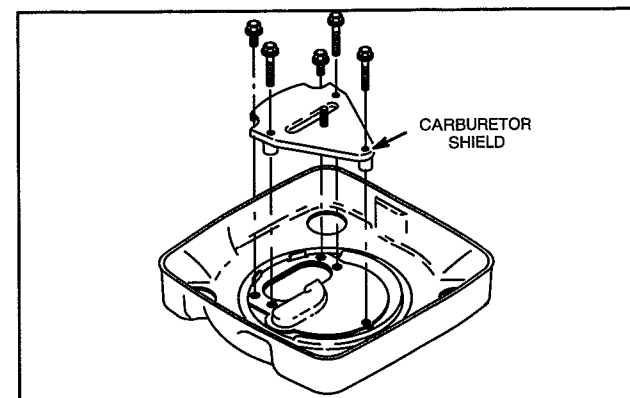

Fig. 74 – Remove Air Cleaner Base
2. Remove five screws and carburetor shield, Fig. 74.